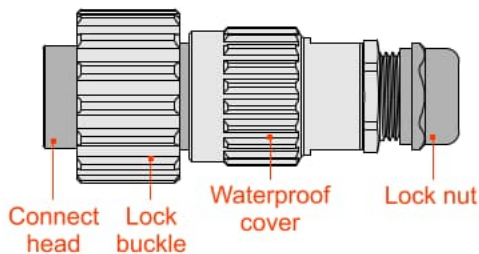

Figure3-21 AC connector
- Step 2 Unscrew the lock nut and waterproof of AC connector (as shown in Figure3-21), lead the live wire, neutral wire and grounding wire go through the lock and crimp them to corresponding port of AC connector.